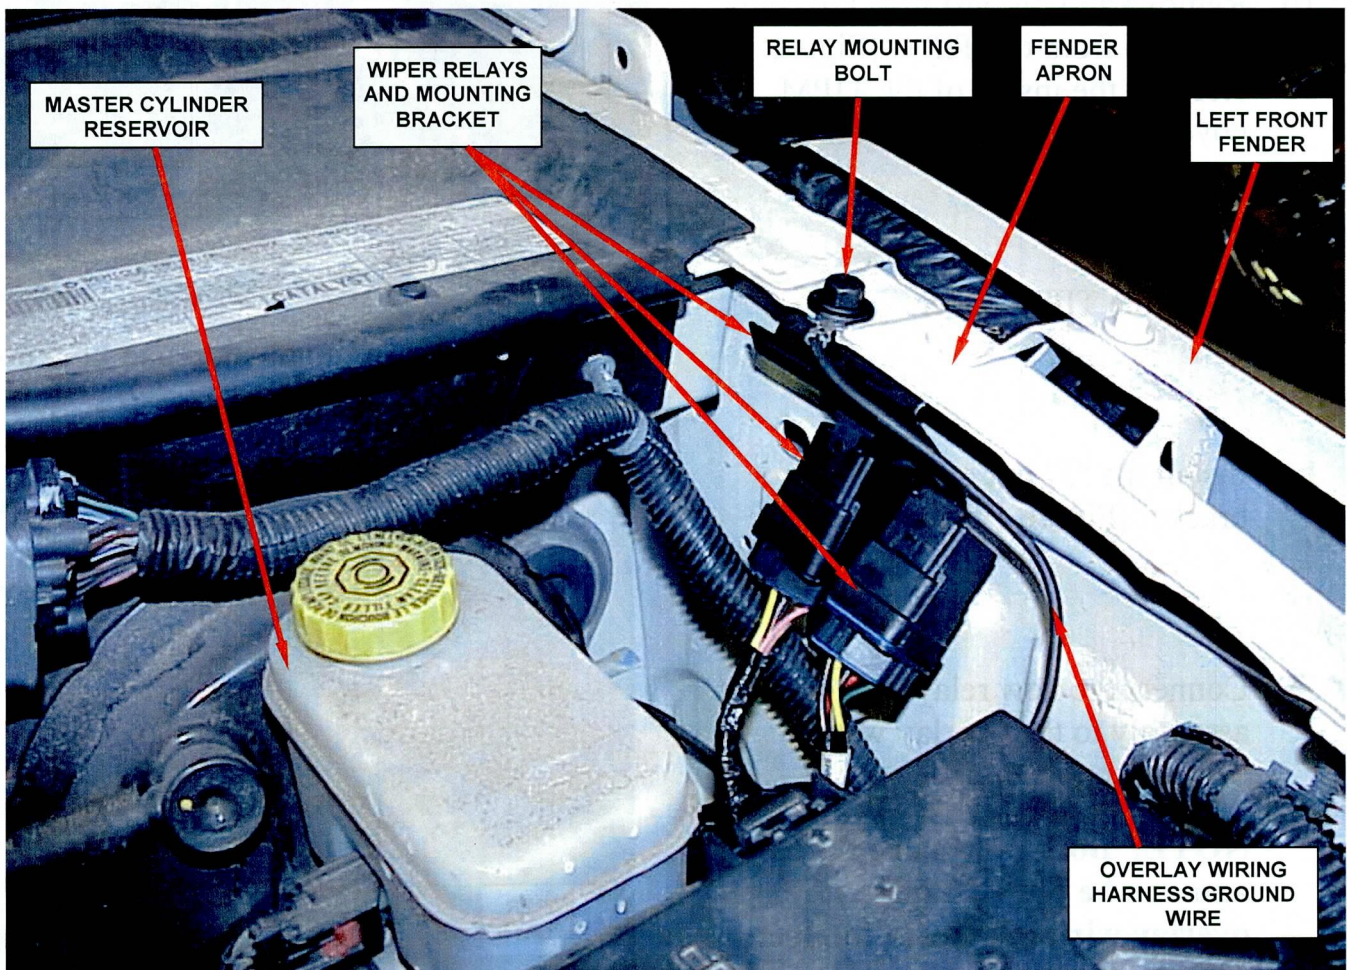

Figure 20 – Relay Mounting Location
14. Install the relay bracket and ground wire from the overlay wiring harness using the supplied bolt into the existing hole on the left fender apron (Figure 20). Tighten the bolt to 195 in. lbs. (22 N·m).
15. Carefully bend the relay bracket so that the relays are point downward approximately 45 degrees (Figure 20).